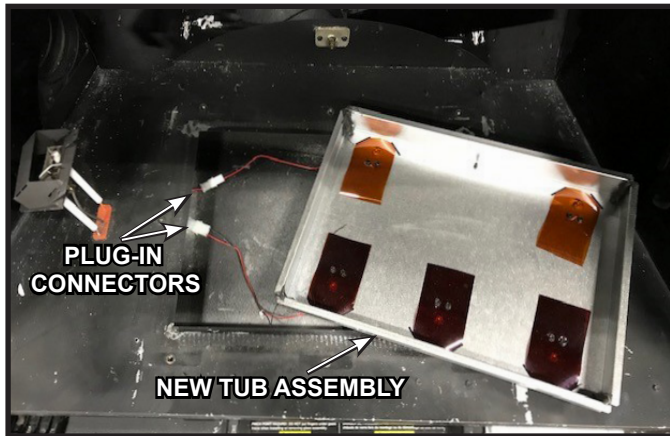

Figure 14 New LED Tub Assembly with connectors
14. Once the plug for the LED Tub Assembly is disconnected, you can remove it from the appliance. Locate the new LED Assembly from the upgrade kit. The new LED Assembly will plug into the two connections located in the appliance. See Figure 14.